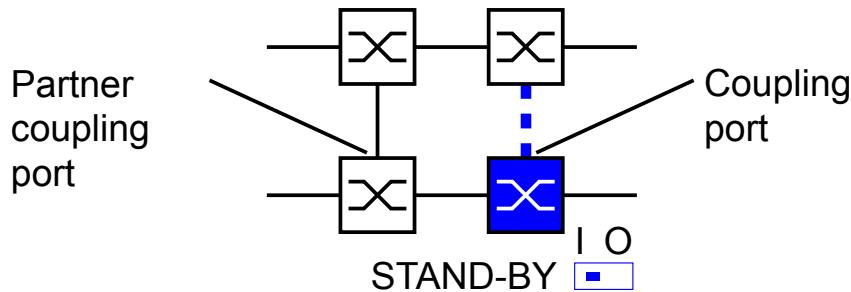

Figure 16: Two-Switch coupling
- Select two-Switch redundant coupling (see fig. 16).